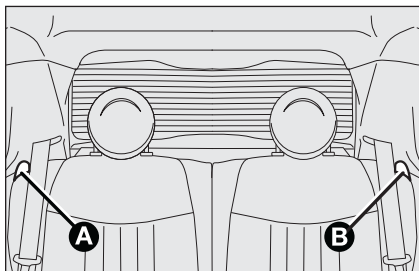

fig. 49
- operate levers **A** or **B**-fig. 49 to release respectively the left or right part of the backrest and guide the backrest onto the cushion.
- operate levers **A** and **B**-fig. 49 to release the backrests and guide them onto the cushion.